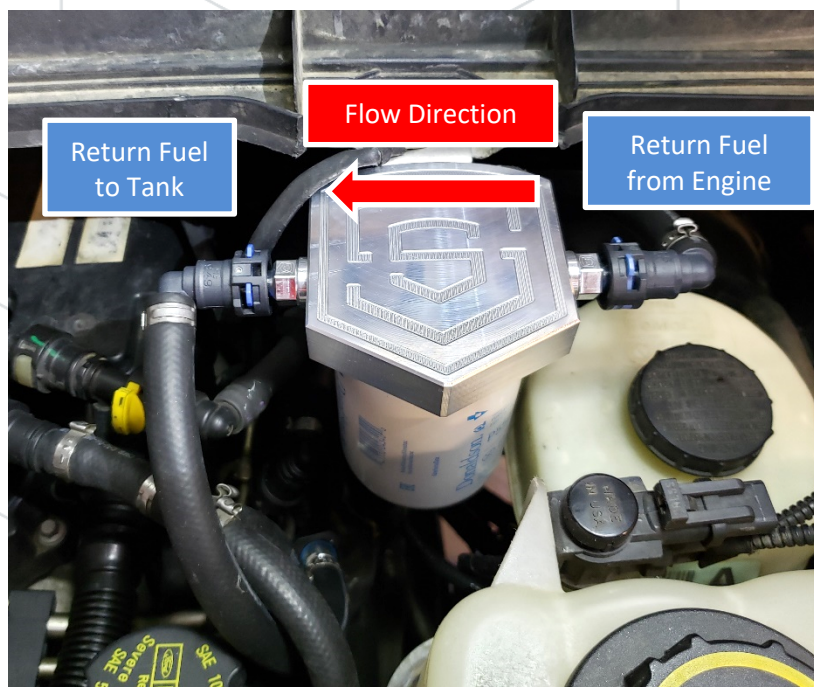
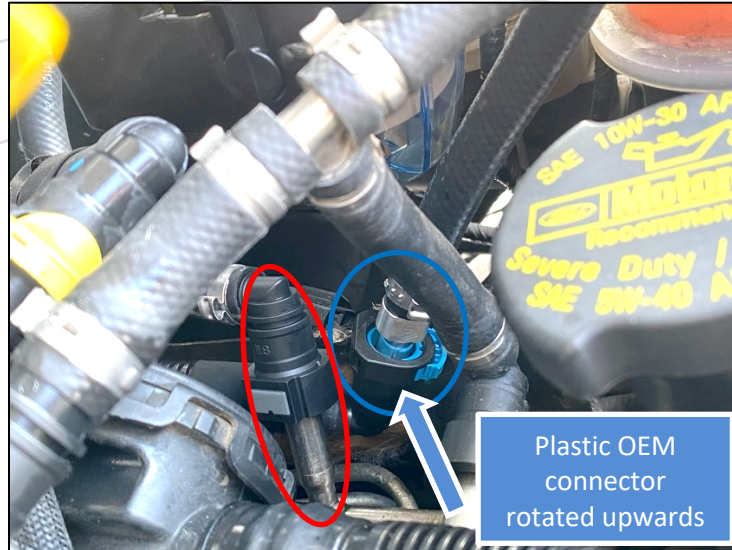

Figure 3: Filter hose orientation and flow direction
Figure 4: Quick connect to remove and rotate up (blue circle)
- b. Disconnect the return line quick connect fitting (Circled in blue, figure 3) from the factory metal return barb (Circled in red, figure 4)
- d. The larger quick connect goes on the OEM metal barb that you removed the factory fitting from earlier (Figure 4).